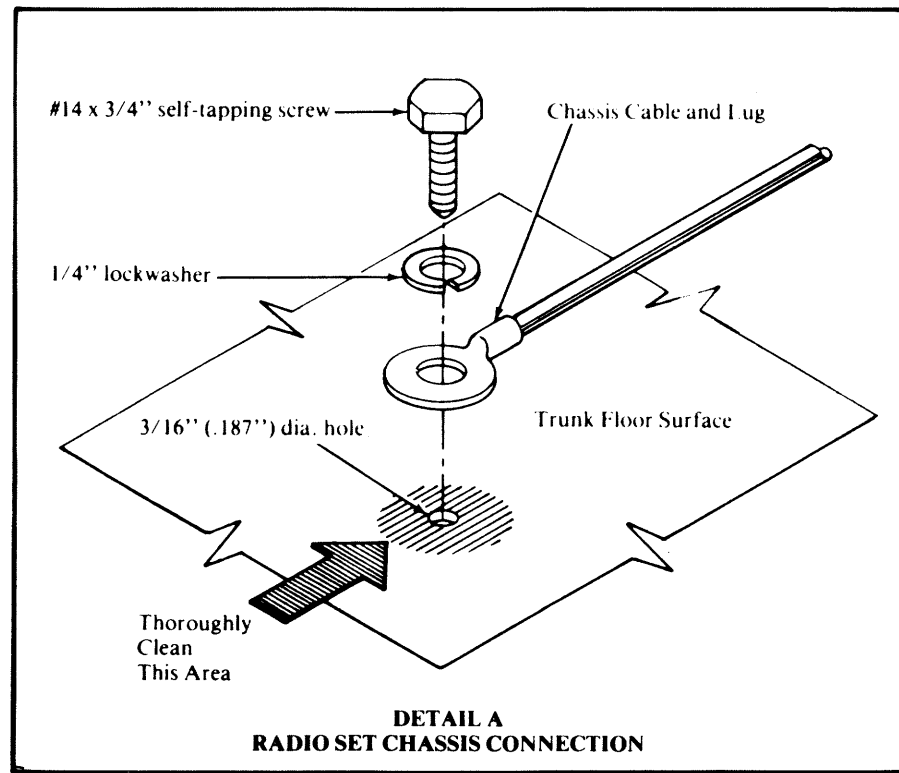

Figure 3. Mounting Tray
(See Figures 3 and 4.)
(1) Choose a location where the mounting screws are not directly above the fuel tank, fuel line, or other vital parts. The mounting tray of the radio must be installed permanently to a flat surface with a four-point mounting scheme or, if on an uneven surface, with a three-point mounting scheme. (Four-point mounting is strongly recommended over three-point, especially in vehicles subject to extreme vibrations.) The raised shelf in some car trunk compartments makes a good mounting place. Place the radio at one side to allow space for luggage. Leave at least eight inches in front of the radio so that the handle can be opened and the programming cable can be plugged into the radio. Locate the radio so that the black ground lead in the trunk can reach a good chassis ground point in the trunk. When the final position is determined, unlock the radio, open the handle and lift the radio assembly away from the mounting tray (pull forward and upward release the radio assembly). Use the mounting tray as a template to mark the location for drilling four mounting holes in the trunk floor. Use a #11 drill (.191). Mount the mounting tray as illustrated in Figures 3 and 4.
(2) When the radio is securely mounted to the trunk floor in some vehicles, the front panel may be pressing against the floor or floor cushioning. Also, in some vehicles where it is necessary to mount the radio directly over the fuel tank, the mounting screws could penetrate the tank. Always make a preliminary check to see how far the screws will extend below the trunk floor. If either condition exists, insert one of the thick spacer washers between the bottom of the mounting tray and the thin spacer washer at each of the four mounting holes. The washers help to keep the radio level, especially when the floor is covered with a "spongy" mat such as soft rubber. Replace the radio assembly by sliding the radio onto the tray at about the halfway point. Push straight back until the tray tabs enter the two window areas on the radio front and engage the handle tabs. Close by pushing the handle until it locks. The handle locks the radio to the mounting tray and conceals the top cover release button. Push the multi-conductor plug onto the male connector and rotate the thumbscrew clockwise to fully seat the connector. Reverse the procedure for removing the radio.
(3) Connect the black ground cable lug to a convenient location on the trunk floor. Thoroughly clean the trunk floor surface before proceeding. Center punch and drill a $\frac{3}{16}$ " (.187") hole through the mounting surface. Use the supplied #14 \times $\frac{3}{4}$ " self-tapping screw and $\frac{1}{4}$ " lock-washer to mount the cable lug.